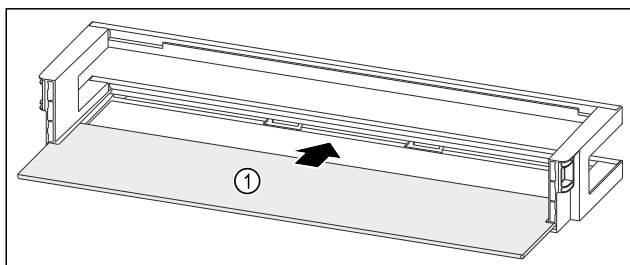

Fig. 197 Door rack with shelf
- ▶ Push the shelf Fig. 197 (1) into the side recesses.